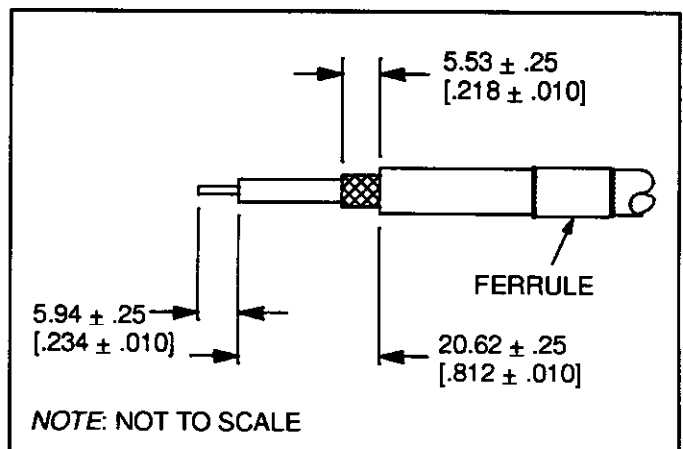
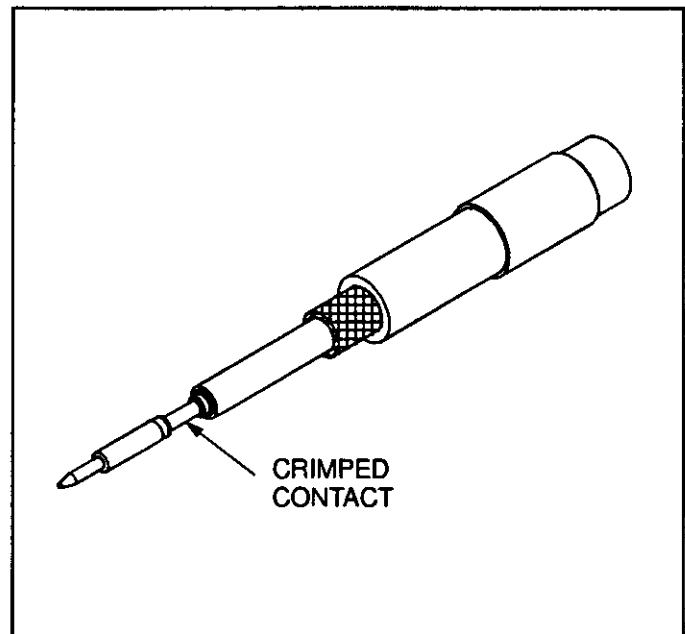

Fig. 2
Fig. 6
- Slide ferrule over the end of the cable; then strip cable using the recommended strip-length dimensions in Figure 2. DO NOT nick or cut cable braid. Center conductor must be straight and free of burrs.
1. Prepare cable using the strip-length dimensions in Figure 2. Insert center conductor into contact; then crimp contact using recommended crimping tool(s) referenced in AMP Catalog 82074. See Figure 6.